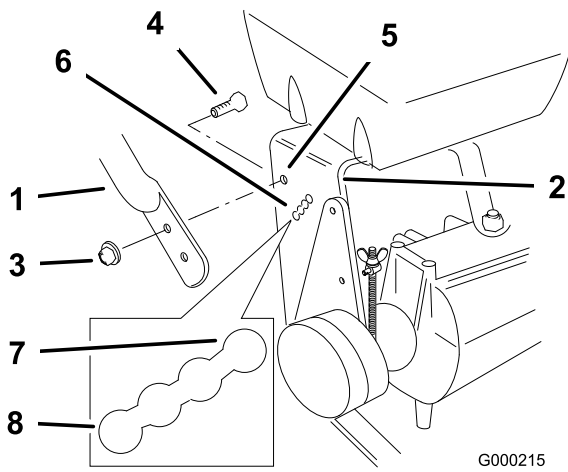

Figure 16
2. Loosen the upper flange bolts (3/8 x 1 inch) and flange nut securing the handle to the rear frame (Figure 16).
- Remove the lower flange bolts (3/8 x 1 inch) and flange nuts securing the handle to the rear frame (Figure 16).